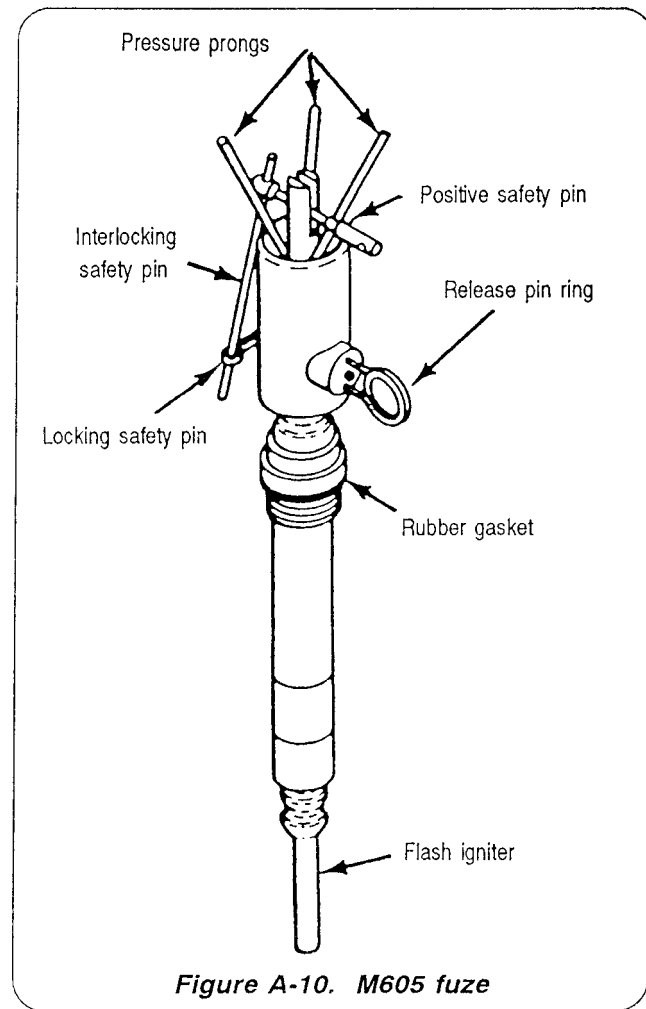

Figure A-10. M605 fuze
d. Carefully examine the fuze assembly for evidence of damage or missing safety pins. Ensure the safety pins move freely in the safety-pin holes. Ensure the rubber gasket is around the fuze base (Figure A-10).